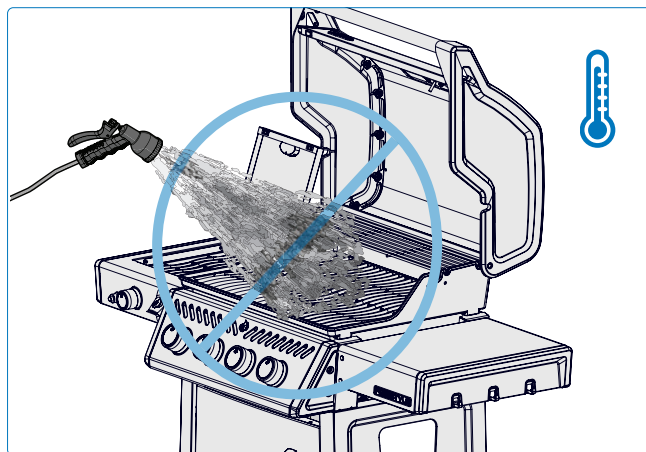

Fig. 27
1. Never douse a flame or control flare-ups with water (**Fig. 27**)